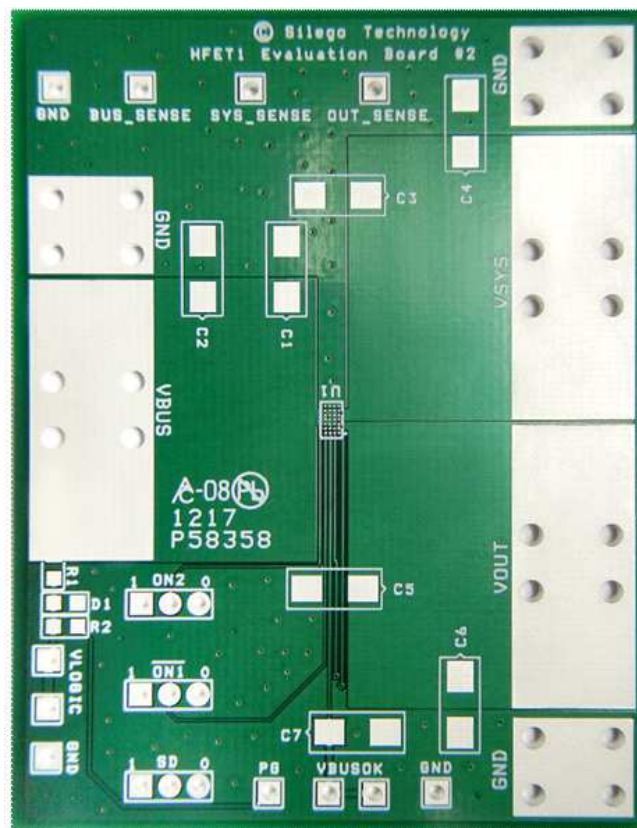

Figure 1. SLG59H1302C Evaluation Board
1. Since the BUS, SYS and OUT pins dissipate most of the heat generated during high-load current operation, it is highly recommended to make power traces as short, direct, and wide as possible. A good practice is to make power traces with absolute minimum widths of 15 mils (0.381 mm) per Ampere. A representative layout, shown in Figure 1, illustrates proper techniques for heat to transfer as efficiently as possible out of the device;
A High Voltage GreenFET Evaluation Board for SLG59H1302C is designed according to the statements above and is illustrated on Figure 1. Please note that evaluation board has BUS\_Sense, SYS\_Sense and OUT\_Sense pads. They cannot carry high currents and dedicated only for  $RDS_{ON}$  evaluation. evaluation.